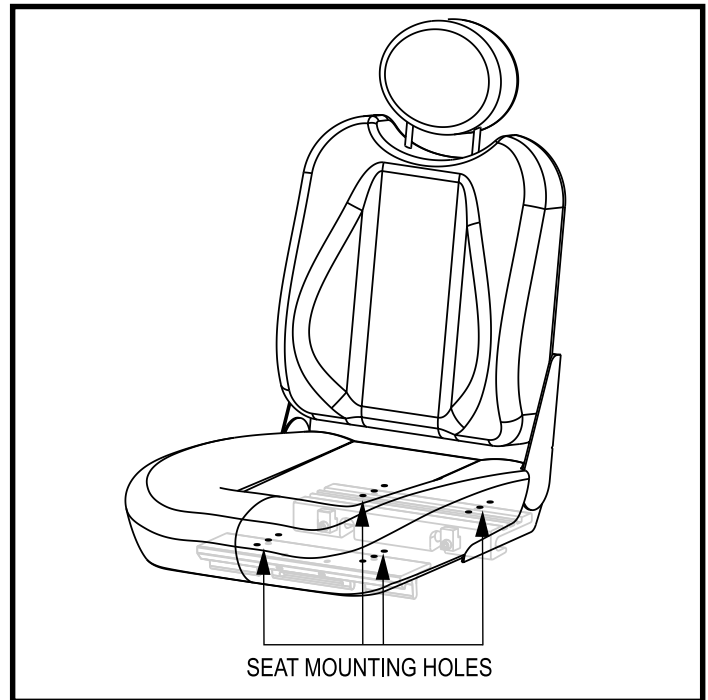

Figure 14. Seat Position Adjustment
4. Reposition the extrusions on a different set of mounting holes. You must move both extrusions the same number of holes either forward or backward. See figure 14.